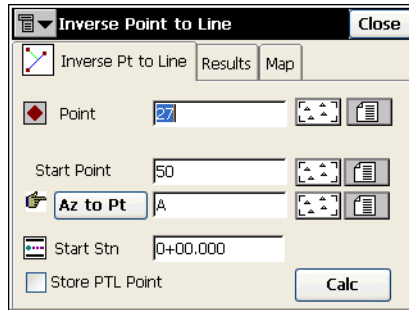

Figure 8-4. Inverse Point to Line.
1. Select the point name, and set the line by its start point, azimuth and starting station (Figure 8-4).